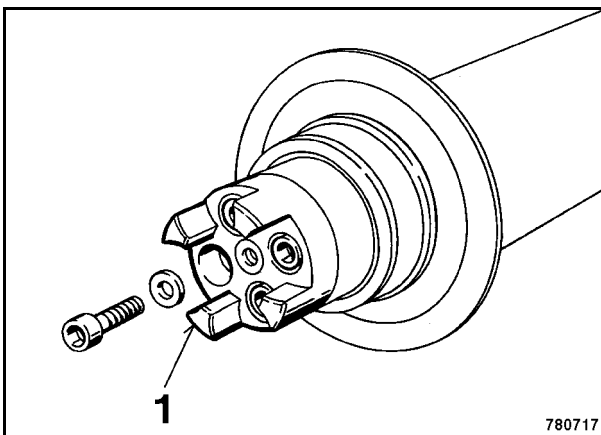

Fig. 5
6. Heat inner bearing races (1) up to approx. 80 °C and slide them on the exciter shaft from both ends.
7. Install coupling hub 1 (Fig. 5).